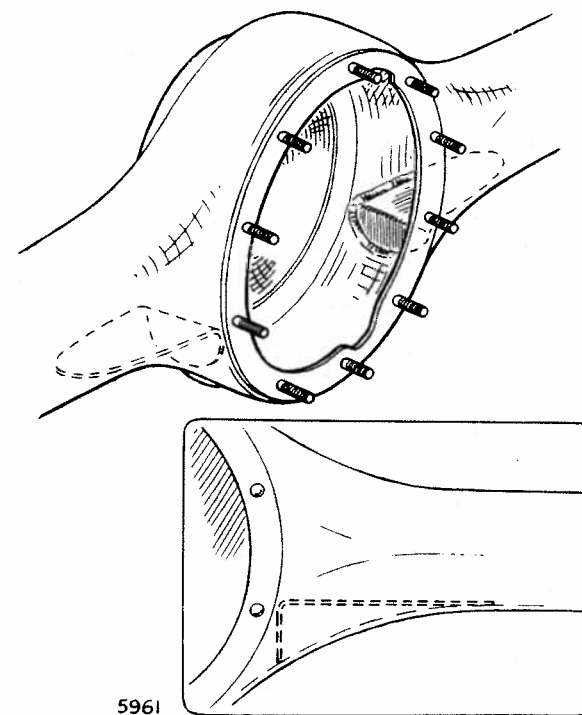

**Fig. 10.** Throttle shaft bracket on front carburettor—stiffening details.
11. Throttle Shaft Bracket—This bracket, which is mounted on the front carburettor should be stiffened up by welding on similar thickness mild steel as illustrated by the grey parts in Fig. 10.